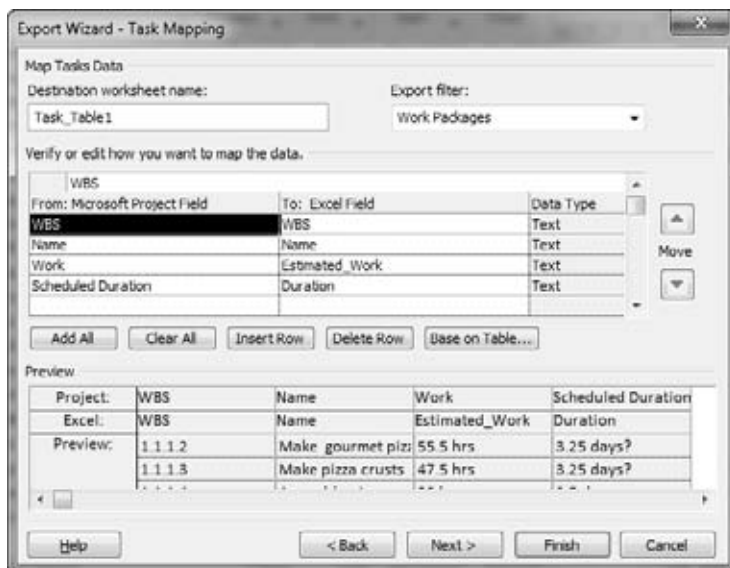

Figure 5-3:
7. On the Export Wizard's Task Mapping page, review the export filter and the field mappings, as shown in Figure 5-3.